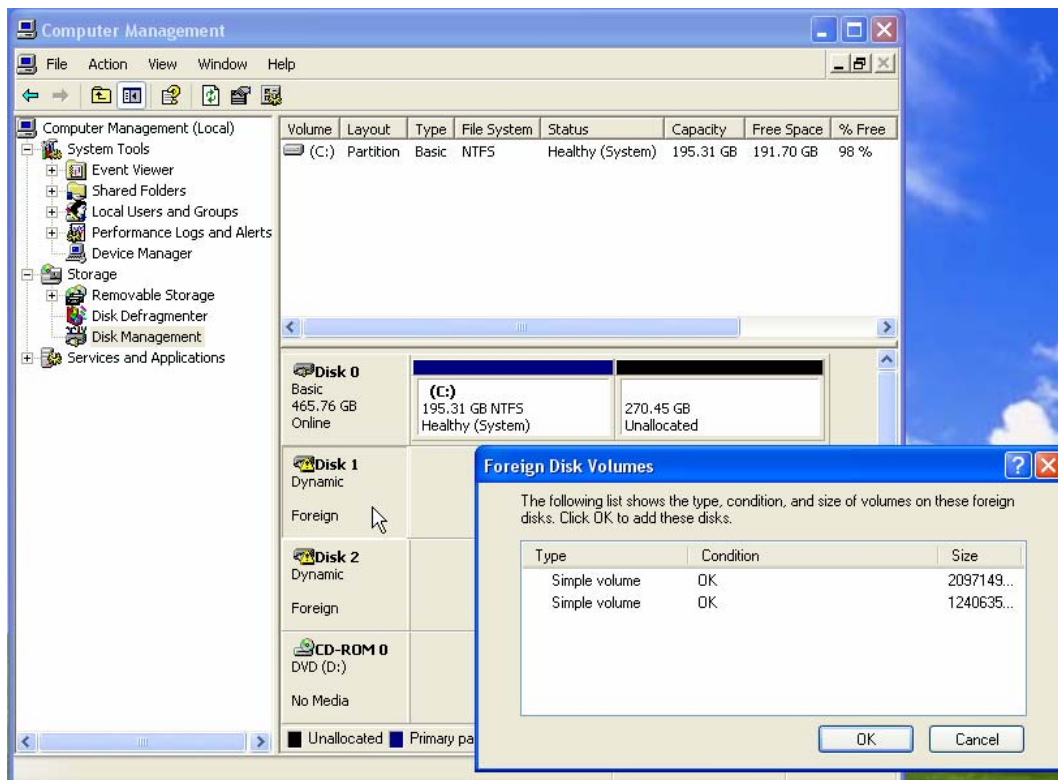

Figure 5-24
- 11) Ensure that the **Foreign Disk** check box in the **Disk Groups** area is selected and then click the **OK** button to access the **Foreign Disk Volumes** dialog as illustrated in Figure 5-24.